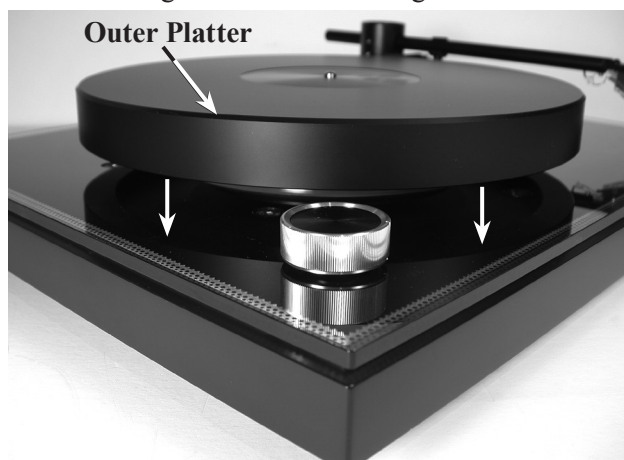

Figure 3
4. Next, take the Outer Platter and slowly lower it onto the Inner Platter making sure to keep the Outer Platter parallel to the Turntable surface as it is being lowered. Refer to figure 3.